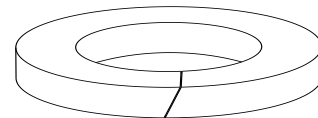

Figure 5 Packing cut (45° cut)
3. Use the new graphite packing ring around a round bar (its diameter is similar to stem diameter), then use knife to cut the packing ring (see figure 5).